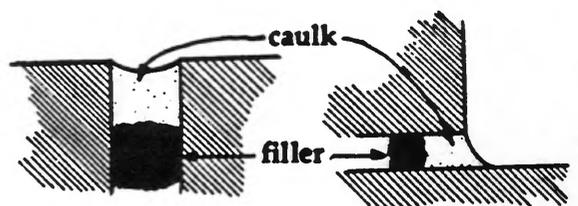

Figure 2. Filling and wide cracks.
- Wide cracks.** Before caulking extra-wide cracks, fill the space with oakum, polyethylene foam backer rod, glass fiber insulation, etc. (See Figure 2.) The caulk should be no deeper than the crack is wide.